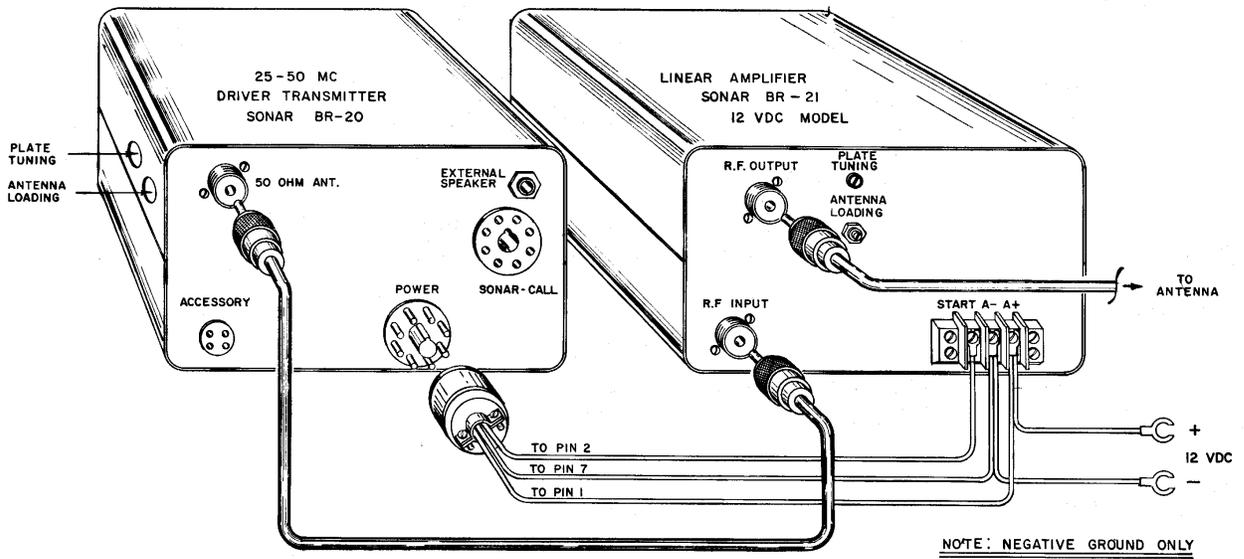

FIG. 1B INSTALLATION DIAGRAM
B. MOBILE, 12 VDC, NEGATIVE GROUND (See Fig. 1B and 1C)